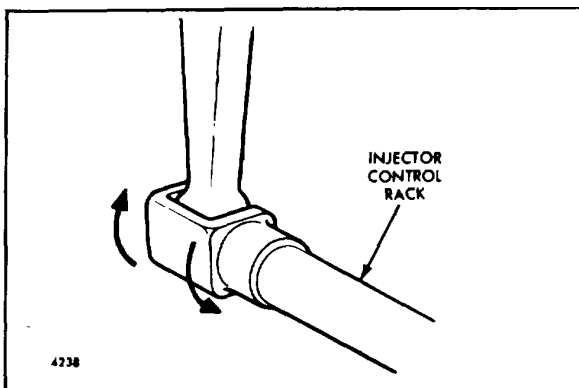

Fig. 4 - Checking Rotating Movement of Injector Control Rack
Fig. 5 - Checking Injector Control Rack "Spring" and note "rotating" movement of the injector control rack (Fig. 4) when the speed control lever is in the maximum speed position. Hold the speed control lever in the maximum speed position and using a screw driver, press downward on the injector control rack. The rack should tilt downward (Fig. 5) and when the pressure of the screw driver is released, the control rack should "spring" back upward.
- 5 To be sure the control lever is properly adjusted, hold the speed control lever in the maximum speed position and press down on the injector rack with a screw driver or finger tip and note "rotating" movement of the injector control rack (Fig 4) when the speed control lever is in the maximum speed position Hold the speed control lever in the maximum speed position and, using a screw driver, press downward on the injector control rack. The rack should tilt downward (Fig 5) and when the pressure of the screw driver is released, the control rack should "spring" back upward.